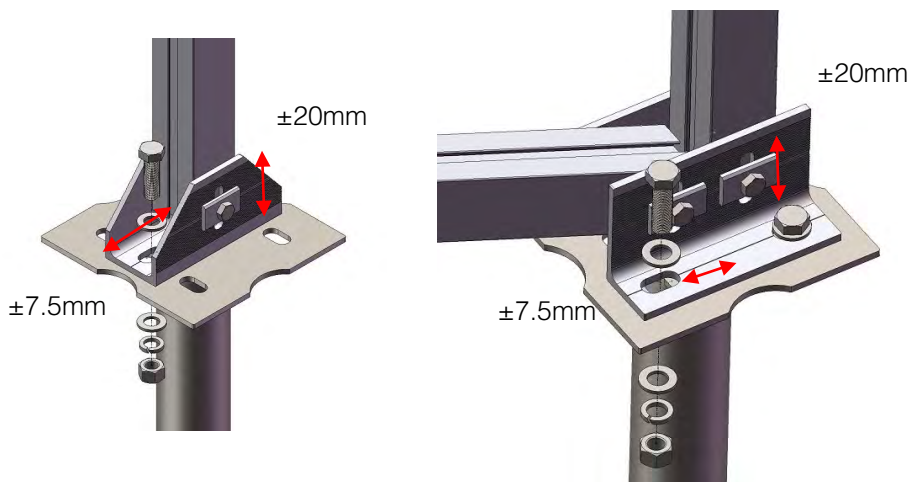

Fig.37
The maximum allowable connection deviation of the Ground Screw to the Support should be within the range of adjustments shown in Fig. 37 below.
5.4.5 Connect the Pre-assembled Support to the Ground Screws by using Hex Bolts M16\*50 with Nuts and Washers. A plain washer is at bolt head side and two washers are at nut side. The spring washer needs to be placed next to nut. See Fig. 37.
Ground screw connection plate enables the connection of either U or L anchors, which also allows some adjustment to the support structure as shown in Fig. 37 above.